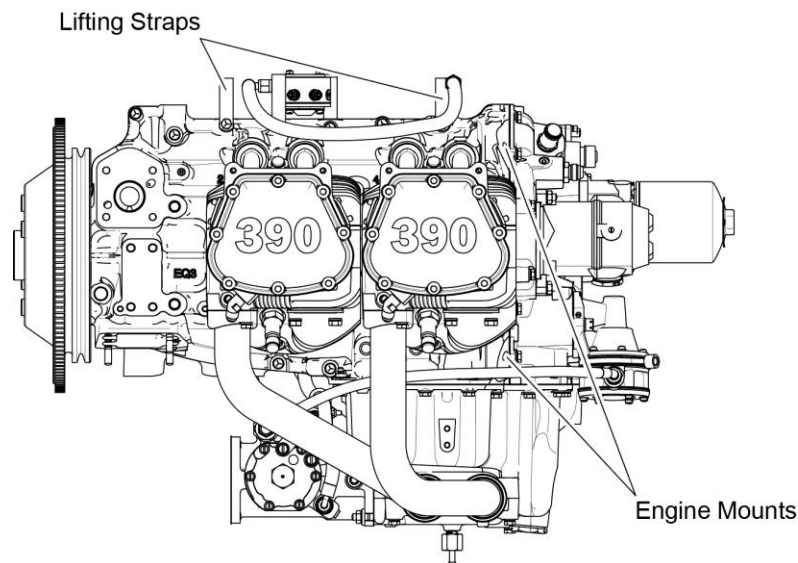

Figure 2
1. Connect the hoist and chains to the lifting straps (Figure 2) on the engine and remove any slack in the chain.